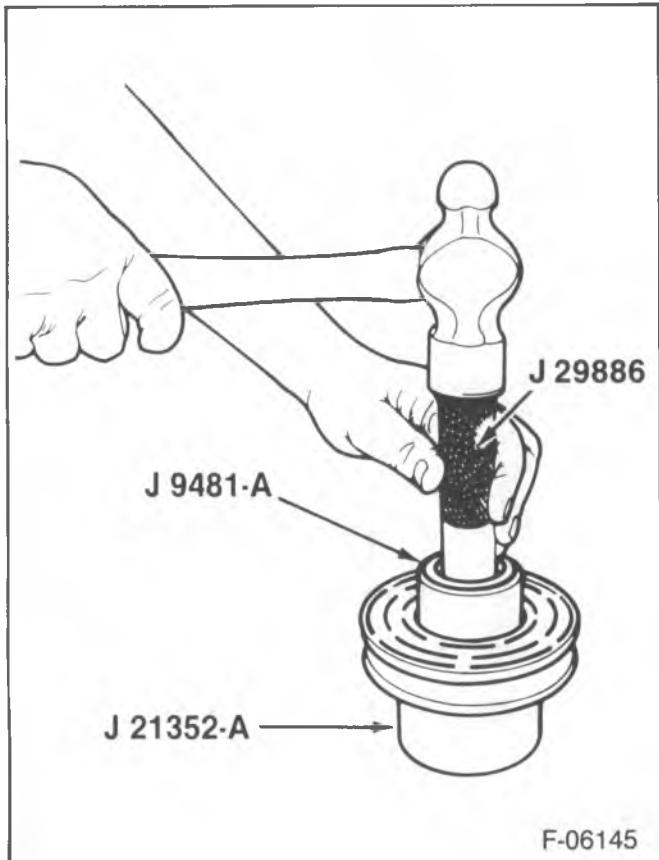

Figure 30—Bearing Installation
➡ Install or Connect (Figure 30)
1. Pulley rotor on J 21352-A (Figure 30).